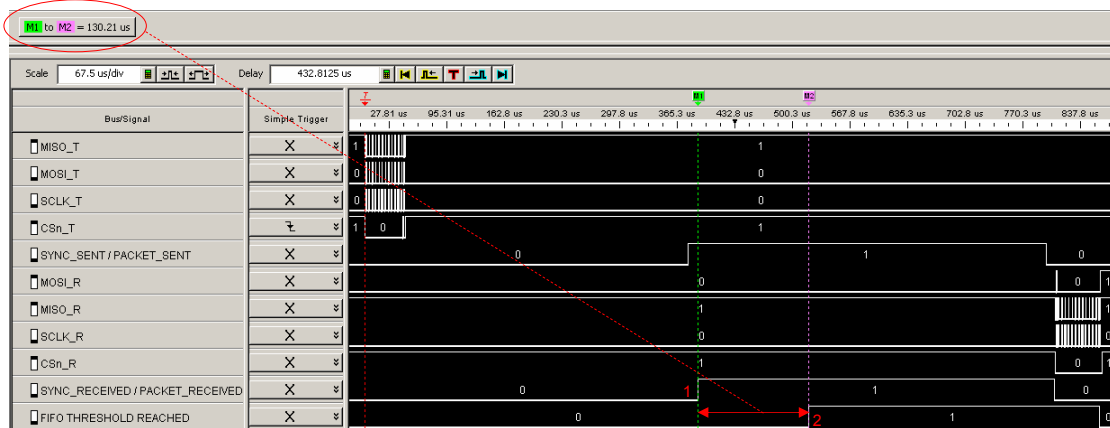

Figure 8. IOCFGx = 0x01 (RX FIFO Filled Above Threshold)
Assume transmitting the packet described in 3.2.3. After the sync word is received (1) it takes $(4 \cdot 8) \cdot (1 / 250000) = 128 \text{ [us]}$ before the RX FIFO threshold is reached (2) (see Figure 8).